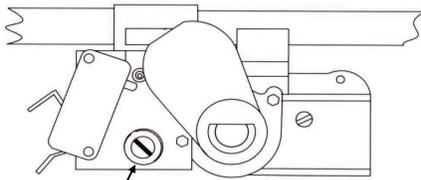
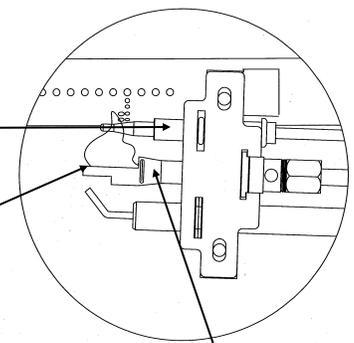

Fig. 5
Fig. 6
5. Once the pilot is lit, locate the pilot adjustment screw on the lower left hand side of the oven thermostat control. See Fig. 5. Access the pilot adjustment screw through the opening behind the oven temperature control knob. With a straight blade screwdriver rotate the screw until the outer tip of the flame is just barely reaching the underside of the end of the flame safety probe. See Fig. 6.